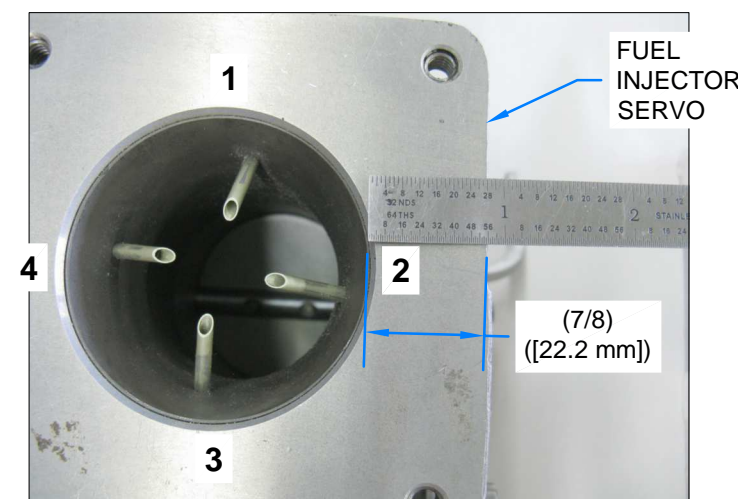

FIGURE 2: MEASURE FUEL INJECTOR SERVO
Step 2: As much as possible, mark the lower edge of the air filter frame onto the snorkel with a permanent marker. This will be referred to as the frame indicator line. See Figure 2.